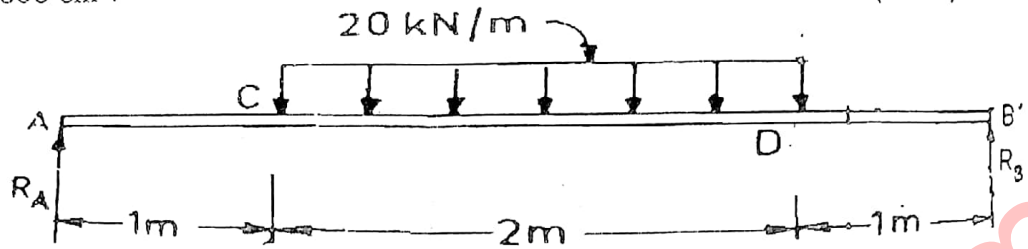

Figure 2
- Q5 A beam of length 4m is simply supported at its ends. It carries a uniformly distributed load of 20 kN/m as shown in Figure 2. Determine the deflection of the beam at its mid-point and also the position of maximum deflection. Take $E=200$ GPa and $I=9600$ cm⁴. (12.5)